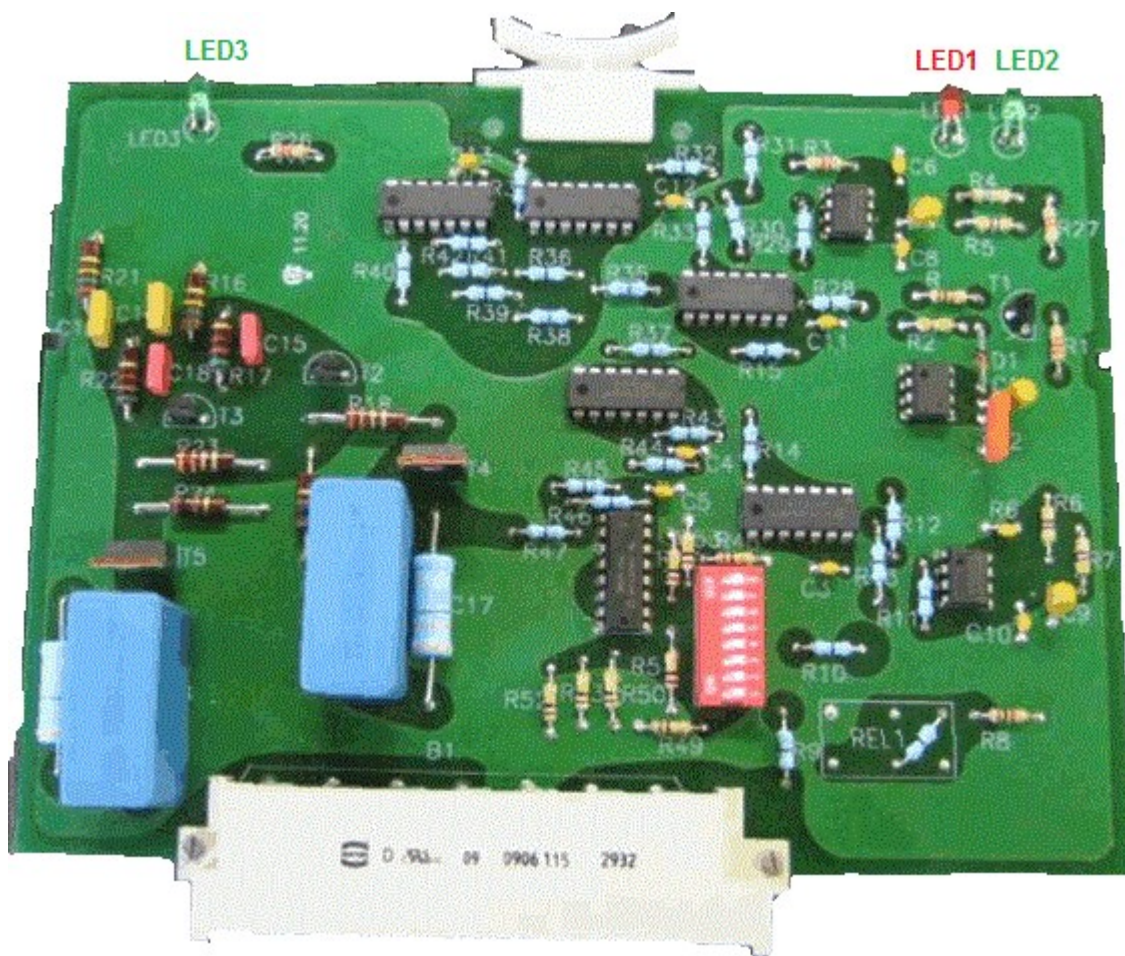

FIGURE 4-1. TRIGGER CONTROL PRINTED CIRCUIT BOARD
4.2.1. Trigger Control Printed Circuit Board P/N113866 (Figure 4-1 page 14)